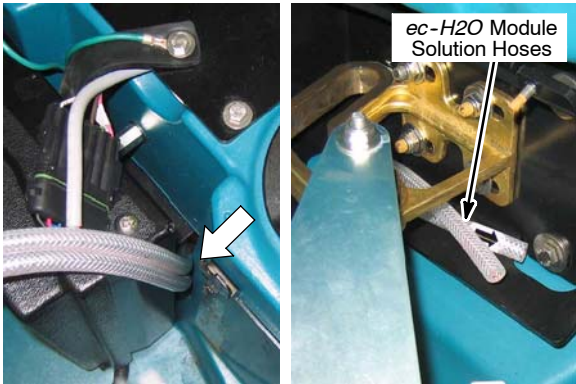

Fig. 27
8. From the scrub head area, locate the two routed solution hoses from the *ec-H2O* module (Figure 27).